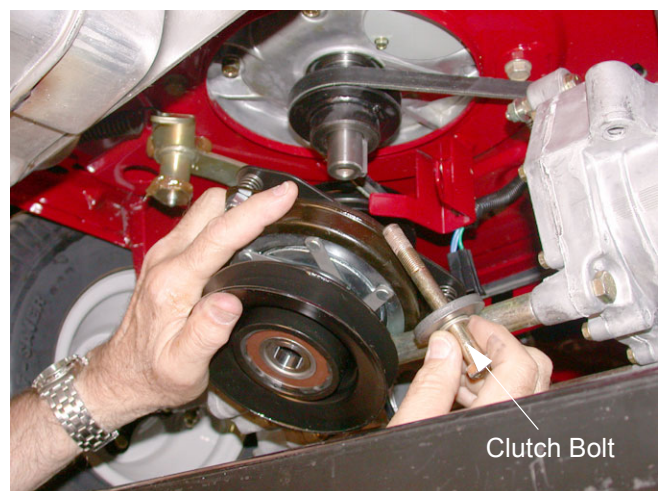

Figure 8.2
- 8.2. Using a 5/8" socket and an impact wrench, remove the clutch bolt. See Figure 8.2.